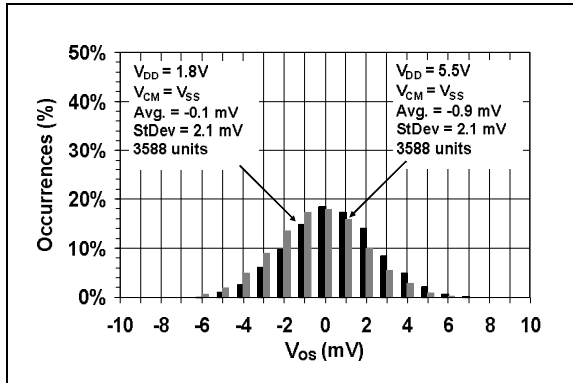

**FIGURE 1-1:** AC and DC Test Circuit for the Push-Pull Output Comparators.
**Electrical Characteristics:** Unless otherwise indicated:  $V_{DD} = +1.8V$  to  $+5.5V$ ,  $V_{SS} = \text{GND}$ ,  $T_A = +25^{\circ}\text{C}$ ,  $V_{IN+} = V_{DD}/2$ ,  $V_{IN-} = V_{SS}$ ,  $R_L = 10$  k $\Omega$  to  $V_{DD}/2$  (see Figure 1-1).
**Electrical Characteristics:** Unless otherwise indicated:  $V_{DD} = +1.8V$  to  $+5.5V$ ,  $V_{SS} = GND$ ,  $T_A = +25^\circ C$ ,  $V_{IN+} = V_{DD}/2$ ,  $V_{IN-} = V_{SS}$ ,  $R_L = 10\text{ k}\Omega$  to  $V_{DD}/2$  and  $C_L = 25\text{ pF}$  (see Figure 1-1).